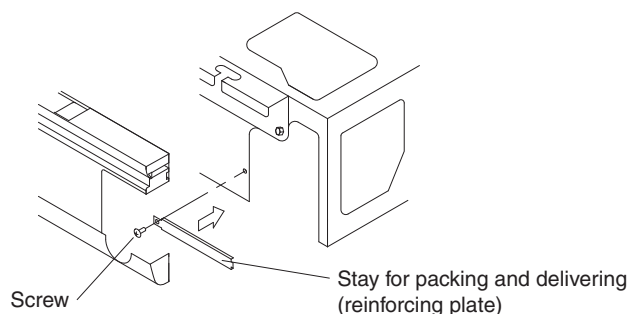

Fig. 30
- After the drain piping work, install the stay for packing and delivering (reinforcing plate), which was removed in the section of “6. REFRIGERANT PIPING WORK”. However, it is not necessary to install the stay for packing and delivering at the right side (reinforcing plate). (Refer to Fig. 30)